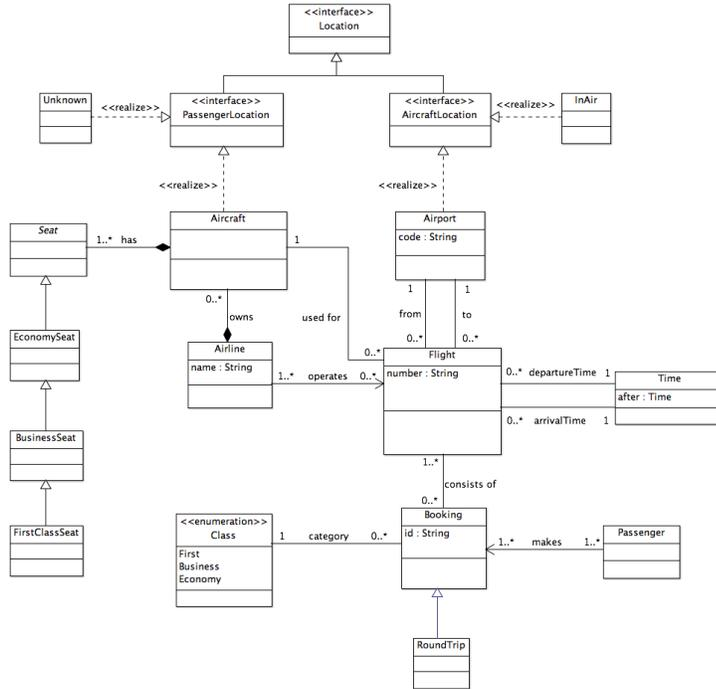

Figure 1: UML model
You should use the UML model from Fig. 1 to guide the design of the Alloy model (i.e., *do not use the UML model you submitted*).
**Task C. (21 points)** In this task, you should extend your static model from Task A to create a model of the dynamic behavior of the system. More specifically, you should model how the location of a passenger and an aircraft changes over time. For this, you should model time explicitly (see Fig. 1) and model what happens to the locations of passengers and aircrafts when the system transitions from one moment in time to the next one. The location of an aircraft can be either at a given airport or “in the air”, while the location of a passenger can be either “unknown” or in an aircraft. It is recommended to complete Tasks A and B first, and then start this task by extending the Alloy model from Task A.